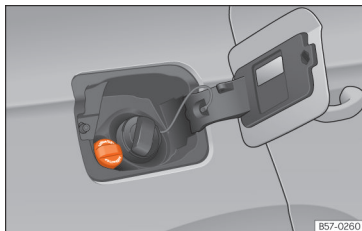

Fig. 217 AdBlue tank cap.
- Open the tank cover »» Fig. 217.
- Turn the SCR tank cap anti-clockwise »» Fig. 217.